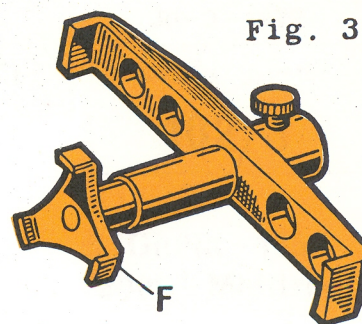

Fig. 3
- 4 Fit a dial gauge with a probe travel of 10 mm (e.g. C.1.0013) on the jig (C.6.0102 or C.6.0160). To read all the travel of yoke "F" (Figure 3) through, preset the dial gauge probe by a few millimetres only.